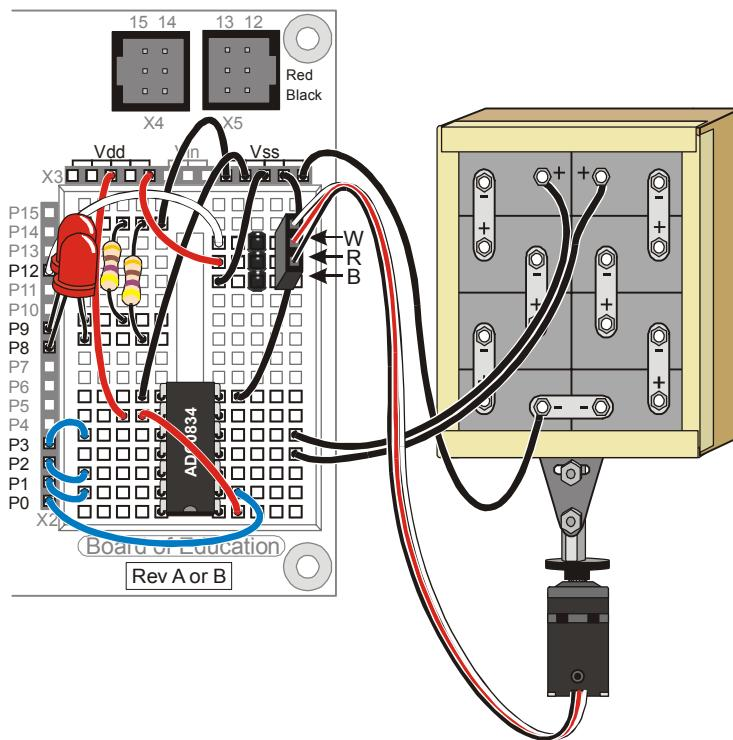

Figure 4-17: Sun Tracker Wiring Diagram for Board of Education Rev B or A
- ✓ For a Board of Education Rev B or A, refer to Figure 4-17 to make sure your servo's black lead is connected to Vss, the red lead to Vdd, and the white lead to P12, via the 3-[in header on the breadboard.